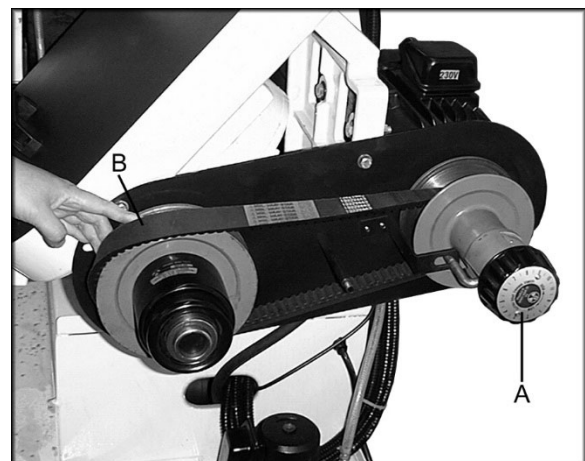

Figure 15
3. Loosen tension on the belt by turning the variable speed dial (A, Figure 15) to the lowest setting. This will allow you to remove the belt (B, Figure 15).